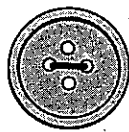

Fig. 34
2. After stitching first two holes (see Fig. 34), turn fabric at right angle, so that remaining two holes are in proper position under button sewing foot.
3. Proceed to stitch remaining two holes (see Fig. 34), then bring zig-zag stitch lever "R" to extreme left, past the zero, making a few straight stitches in the same hole.